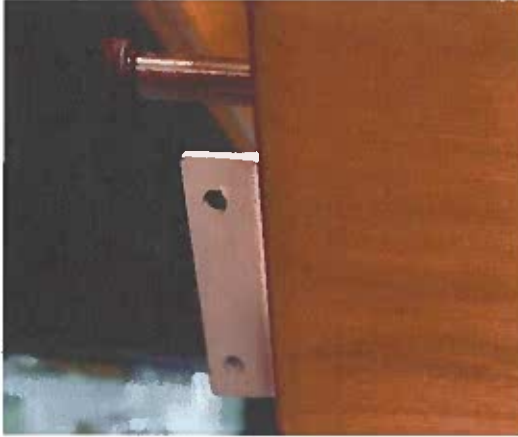
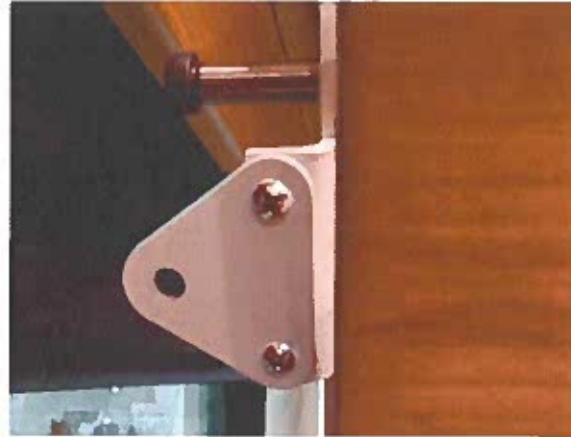

Figure 3a
Figure 3b
3. Locate the white bucket on the driver's side of bunk (figure 3a). Secure bunk bracket 2 in position using the bolts, lock washers and nuts from the hardware kit. Bunk bracket 2 should be placed over bracket using the existing holes (figure 3b).